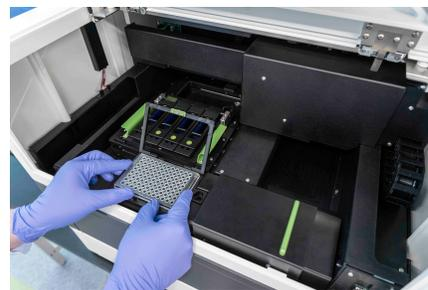

Figure 12: Insert the collection plate onto the plate holder when prompted
2. Insert the collection plate onto the plate holder (Figure 12).